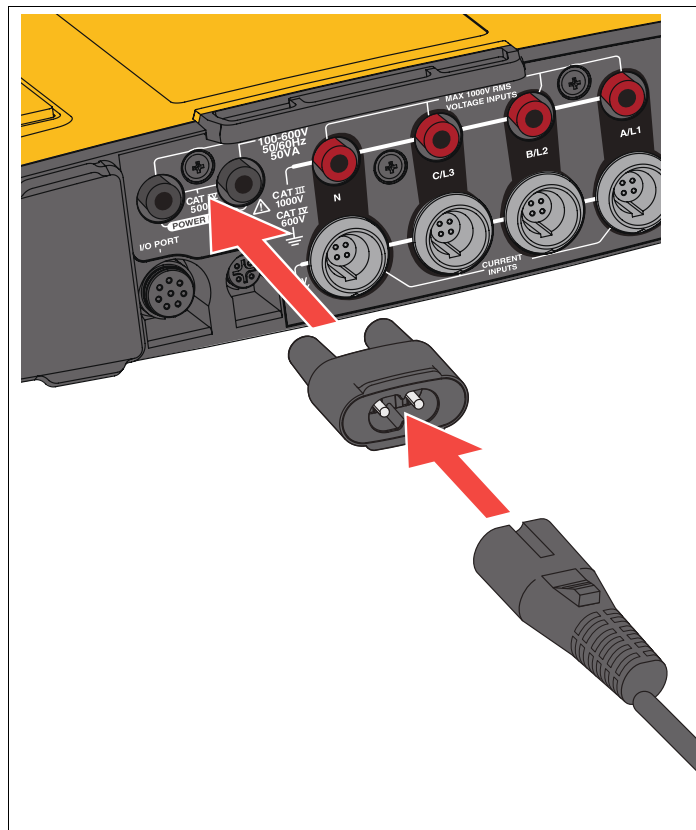

Figure 5. Power Supply
1. Attach the mains adapter MA-C8 to both power supply inputs of the Logger. See Figure 5.